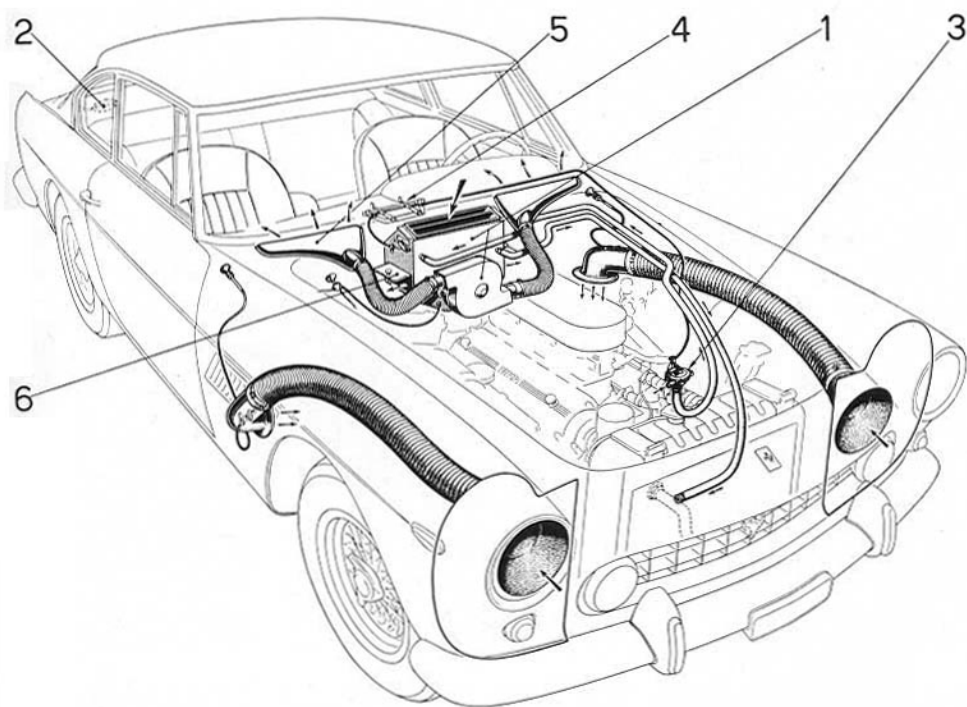

Fig. 11 - Ventilation and heating installation.
1. Moving the facia mounted air control lever to the right and opening the heater doors - situated either side of the heater box - see fig. 11 - item 6.